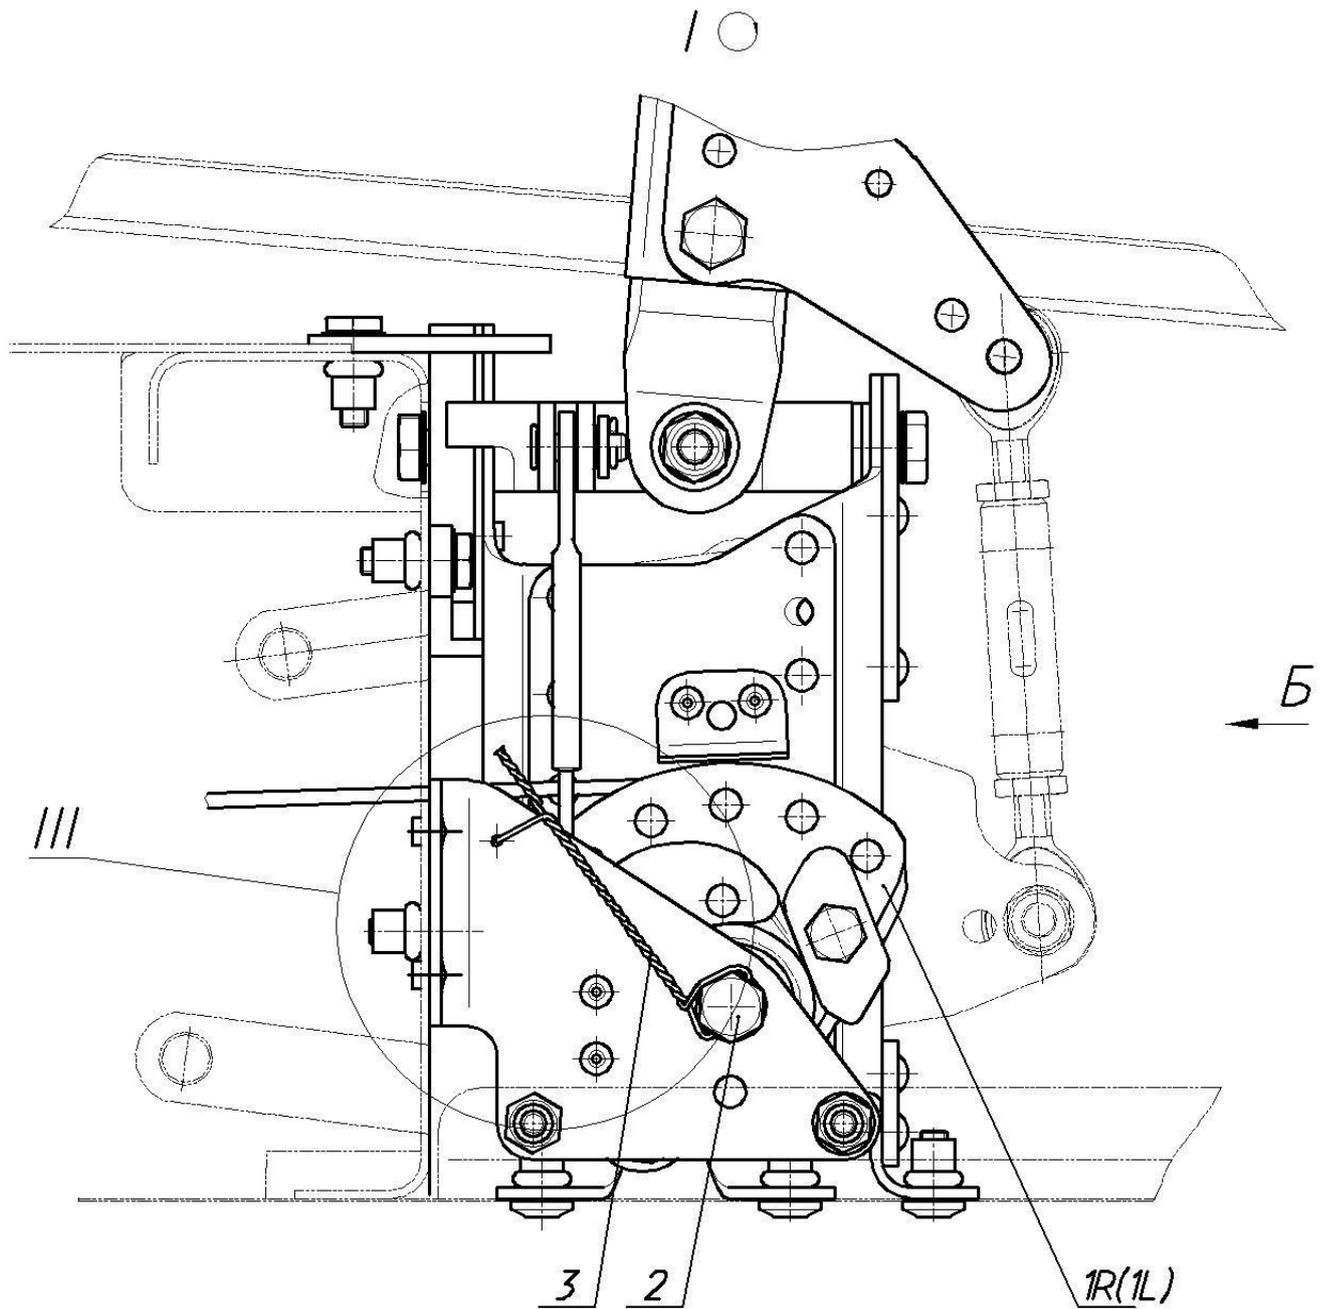
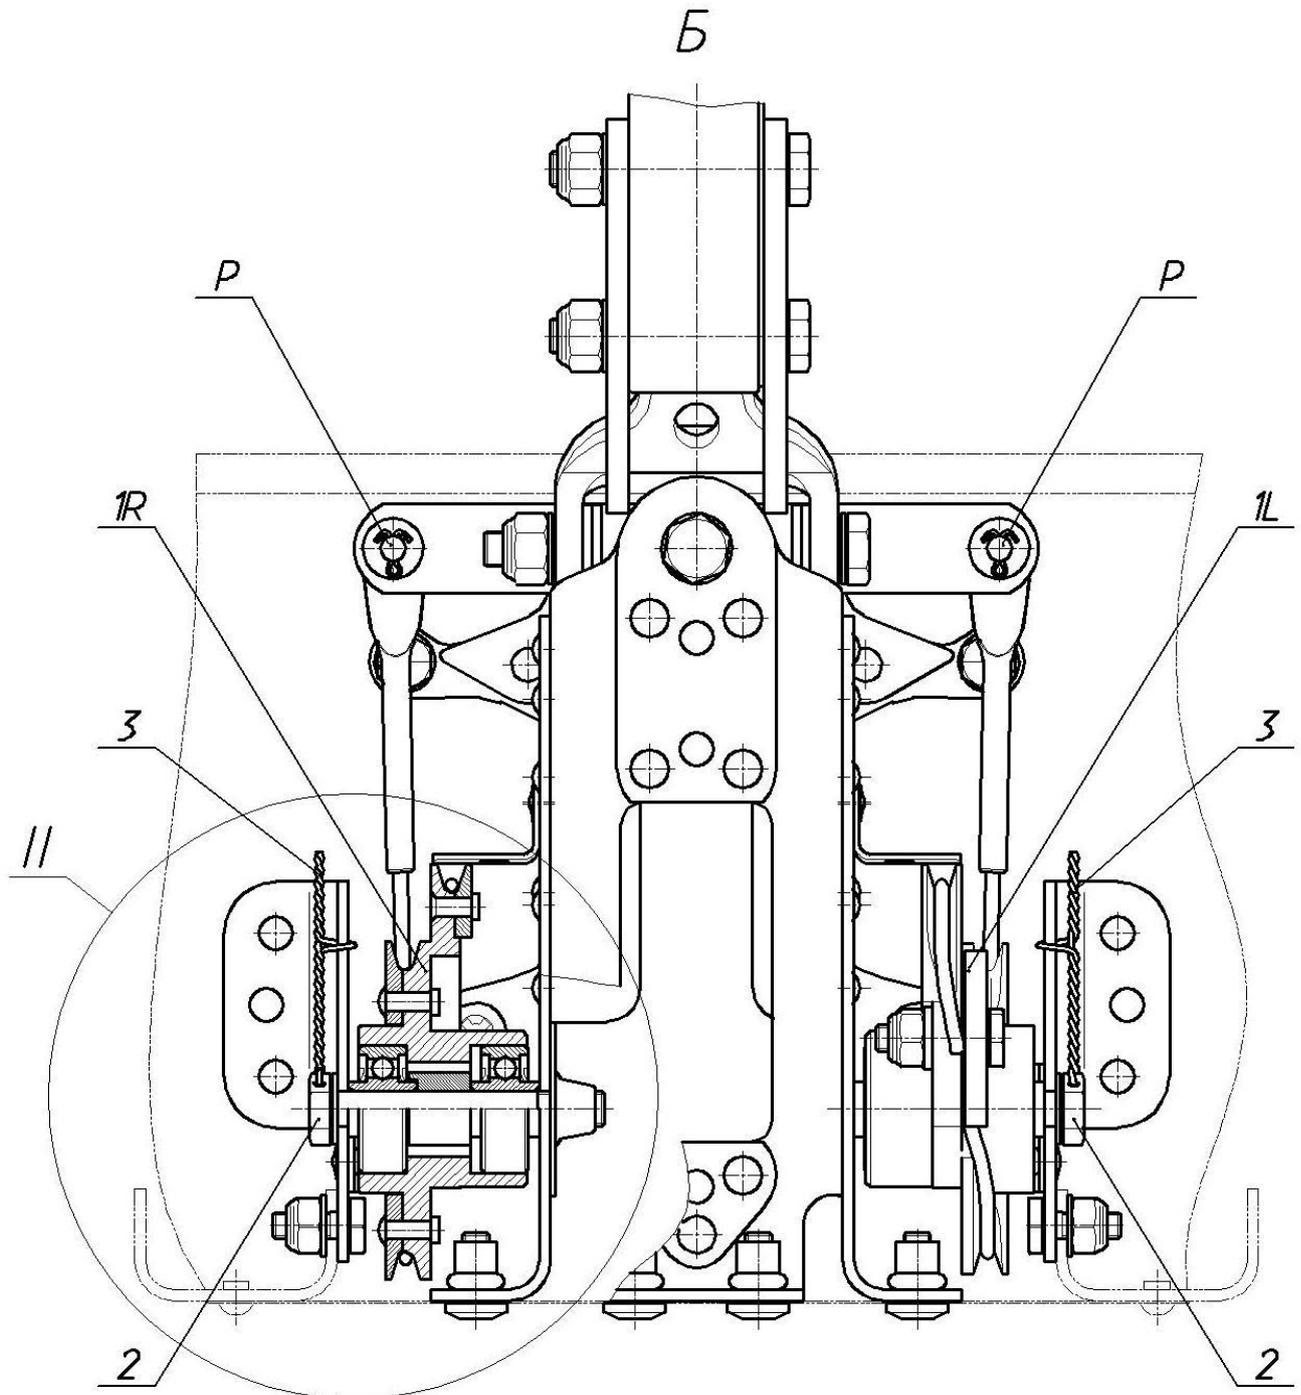

Fig. 3
Fig. 6
3.2.2 Remove the split pins from the “P” pins (see fig. 6) and disconnect the cables from the cardan.
3.3.3 Install the control sectors (No. 1R and 1L) in their place (see fig. 3 and fig. 6). During the installation the cable guards must keep the control cables in the groves of the respective control sectors.
3.3.5 Connect the cables to the cardan using the “P” pins (see fig. 6). Lock the pins with split pins.
3.3.6 Lock the bolts No. 2 with safety wire through the holes in their heads and  $\varnothing 2$ mm holes in the additional supports of the control sectors (see fig. 3 and fig. 6).